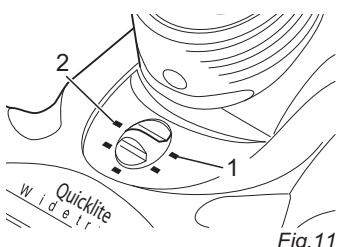
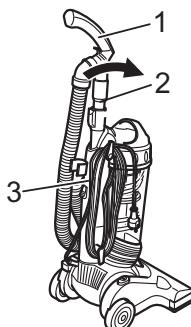

Fig.11
Fig.15
For short-pile carpets, hard flooring, laminate, tiles, PVC, etc. turn the control switch entirely to the right (Fig. 11/1).
For long-pile carpets, runners, etc. turn the control switch entirely to the left (Fig. 11/2).
2. If necessary, push the telescopic tube (Fig. 15/1) into the telescopic tube mount (Fig. 15/2), until it audibly clicks into place.
3. Put the appliance into idle running mode. To do this, move the handle (Fig. 15/1) forwards until it audibly clicks into place and turn the control switch for setting the pile depth entirely to the right (Fig. 11/2).